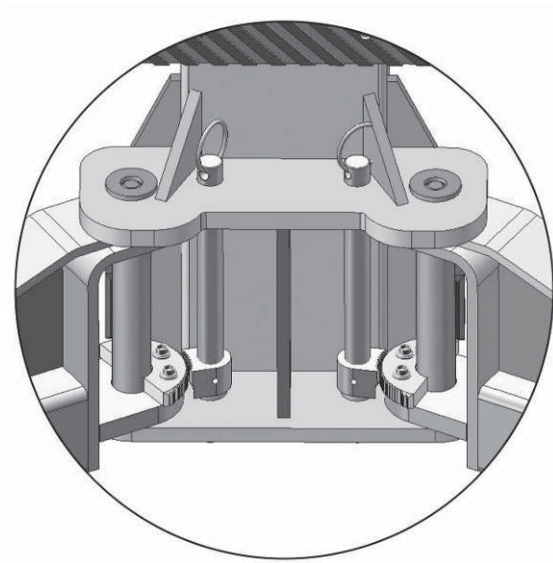

Fig. 36
Q. Install the lifting arms (See Fig. 36)